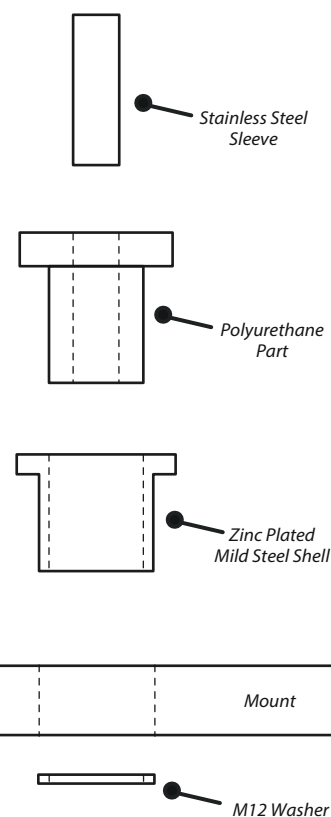

Figure 1
3. Press the mild steel shell into the arm square with the lip on the outside of the arm, as shown in figure 1.
4. Press the polyurethane part into the shell so the top hat section sits on the arm as shown in figure 1.